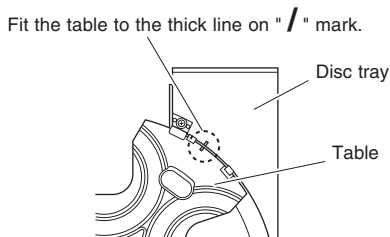

Fig. 5
- Install the table by aligning it to the thick line on "/" mark. (Fig. 5)